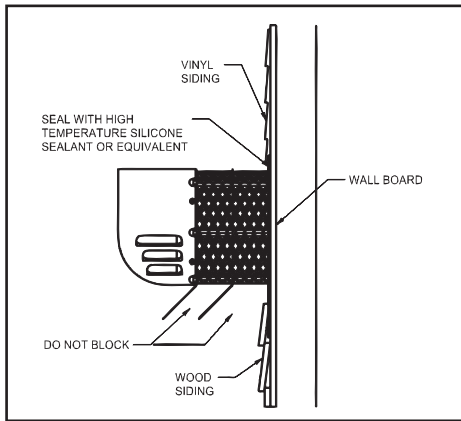
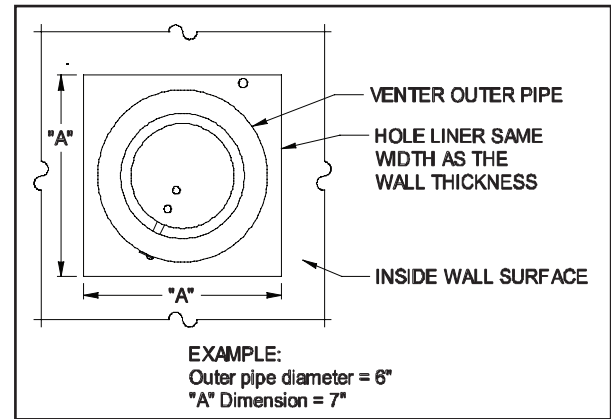

Figure 2
Figure 3
4. After determining the location of the venting system termination point (See Diagram A), cut a square hole through the wall to the minimum dimensions given in Table 5, "Installation Hole Dimensions". Mount the power venter through the wall, keeping the outer pipe centered in the hole. (See Figure 3) Fasten the power venter to the outside wall with stainless steel or galvanized lag screws (not included) or other appropriate fasteners. Seal the edges of the power venter mounting plate to the wall with a high temperature silicone sealant. DO NOT enclose the spaced plates on the power venter body. This will result in reduced cooling of the power venter body. Wood or vinyl siding should be cut so that the unit mounts directly on the wallboard to provide a stable support. If the siding is greater than 1/2" thick use a spacer plate or board behind the power venter mounting plate. (See Figure 2)